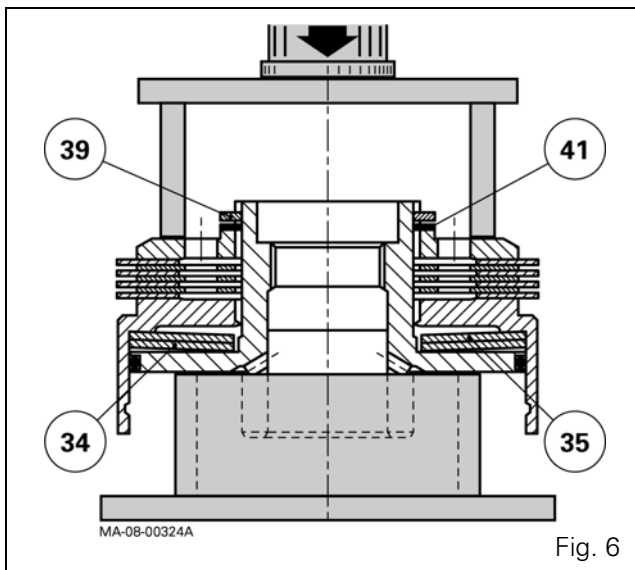

Fig. 6
16. Detach the bell gear (15) from the clutch assembly (16).
17. Remove the circlip (31).
18. Remove the cover plate (30).
19. Remove the "O" rings (29) (32).
20. Using a press and a suitable fixture, compress the Belleville washers (34) (35) (Fig. 6).
21. Take off the circlip (39) and the shim(s) (41) (Fig. 6).
23. Remove the cover plate (38), the discs (36) and the thrust plates (37).
24. Separate the hub (40) from the bell (42).
25. Remove the "O" ring (33).
26. Remove the Belleville washers (34) (35).
Using a press and suitable fixture (Fig. 6) apply a load of 2000 daN to fully compress the Belleville washers (35) (34).